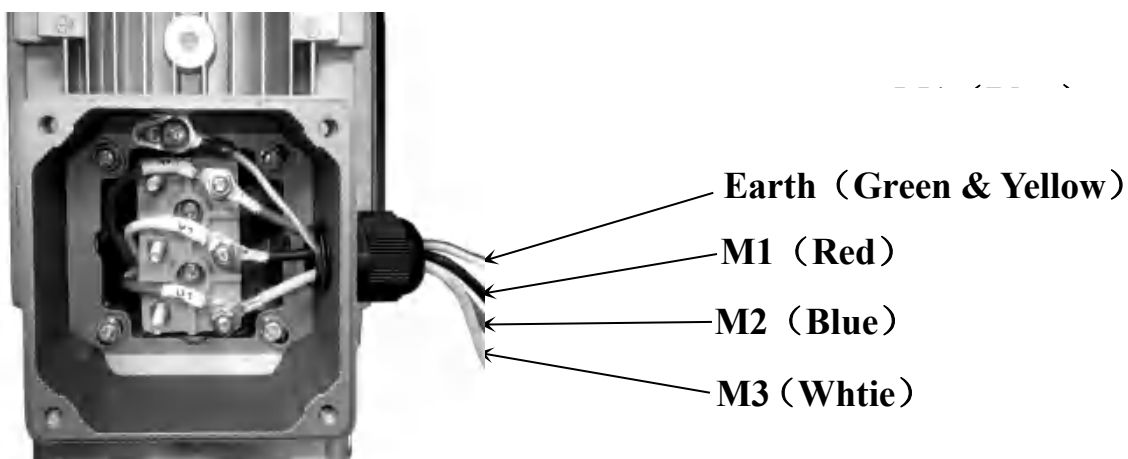

Fig. 43
5.2 380V Wire connection diagram of hydraulic motor (See Fig.43).